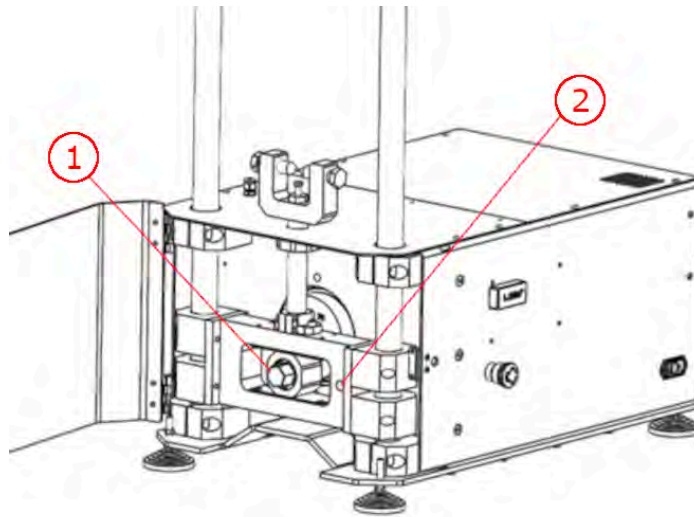

Figure 10
2. Rotate the roller bolt using a wrench (Figure 10 – Step 1) and insert the locking pin to lock the roller in place (Figure 10 – Step 2).